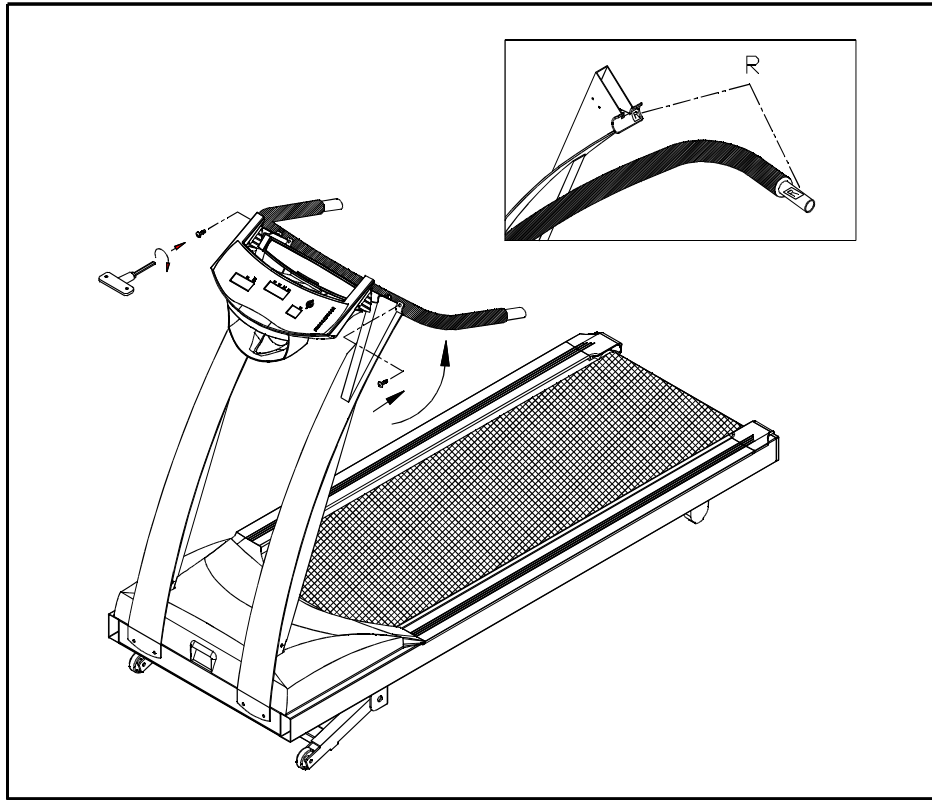

Fig.5
7. Turn up the handlebar and fasten the screws. Do not tighten yet. Make sure to assemble the handlebar to the lift post correctly. R to R which are marked on the handlebar and lift post respectively. (see Fig. 5)